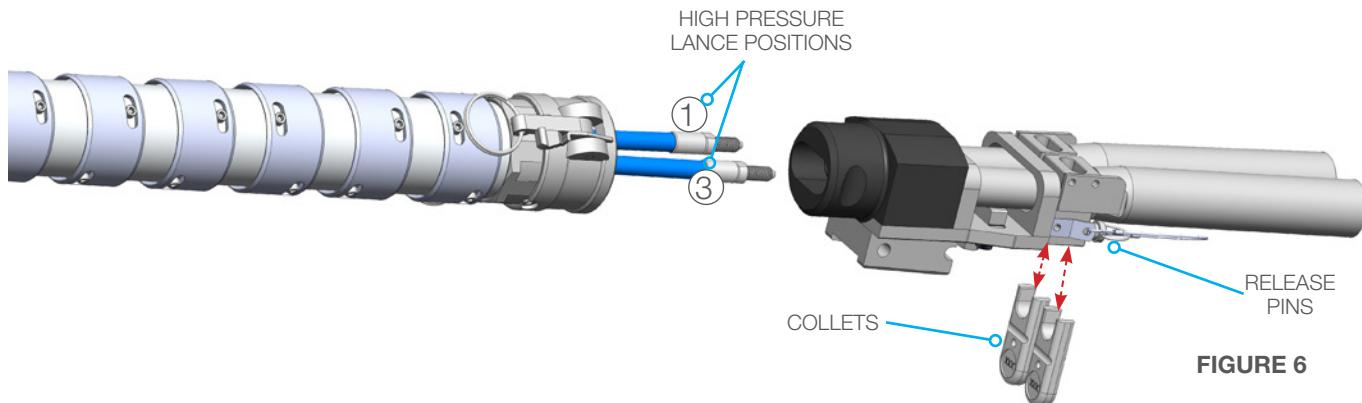

FIGURE 6
- Remove the Collets from the Hose Guide by pulling out the Release Pins. (**Figure 6**)
- Push the lances through the Hose Guide, leaving enough slack to attach the Banshee tools. (**Figure 6**)
- When the hose ends are visible, insert the Collets and secure with the Release Pins. (**Figure 6**)